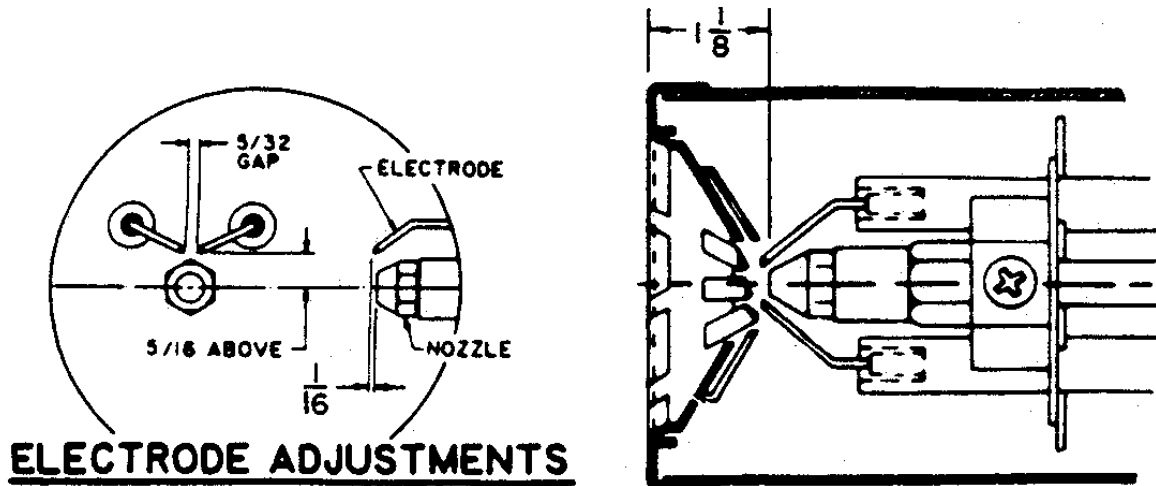

Figure 15: Electrode / Head Setting
- Verify nozzle size, head size, gun setting, and positioning of electrodes. This information is shown in Figure 15, and Beckett Burner Specifications, Table 6. Replace Gun Assembly.